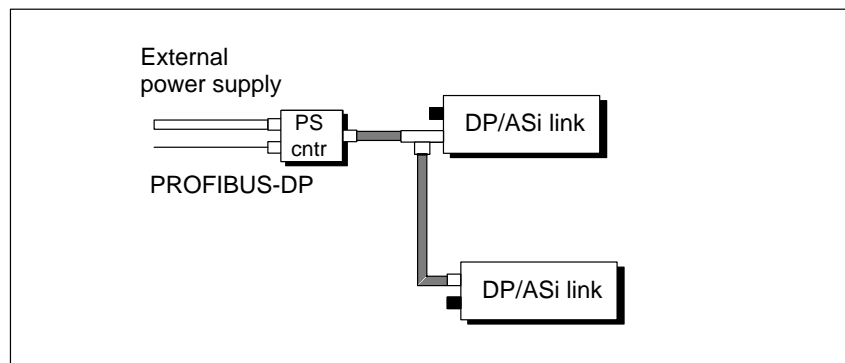

Figure 3-3 PROFIBUS-DP and power supply looped through by means of T connector
**Installation** Fig. 3-3 shows a possible installation for the configuration with a power supply connector and with a T connector: